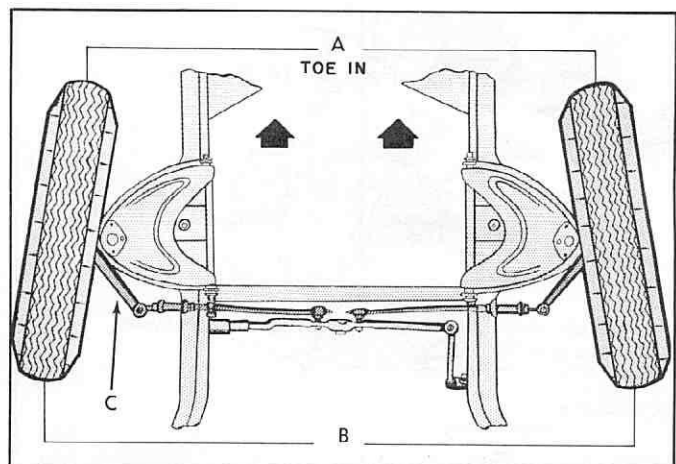

Figure 5—Principles of toe
Definition of toe-in or toe-out: Toe-in is the distance the front of the front wheels at (A) in Figure 5 are closer together than the rear of the front wheels at (B). Toe-out is the distance the front of the front wheels are farther apart than the rear of the front wheels.
The WA151A Trammel Bar: The trammel bar calculates toe by measuring the distances A and B in Figure 5, using the tire center lines as reference points. This is an accurate method on new automobiles. However, as mileage on a vehicle increases, allowances must be made on the toe-in setting to compensate for the increased wear and resulting slack in the steering linkage. Full instructions are given in Form SB532 **INSTRUCTIONS FOR THE WA151A TRAMMEL BAR**, available from your *Snap-on* representative.
The importance of having the correct toe-out on turns is shown by the fact that 60% or more of the average driving is on a turn of some degree—corners, curves and pulling out to pass. Improper toe-out on turns causes tire squealing and excessive tire wear. When incorrect, the steering arm is bent and should be replaced. See Figure 5, point "C".